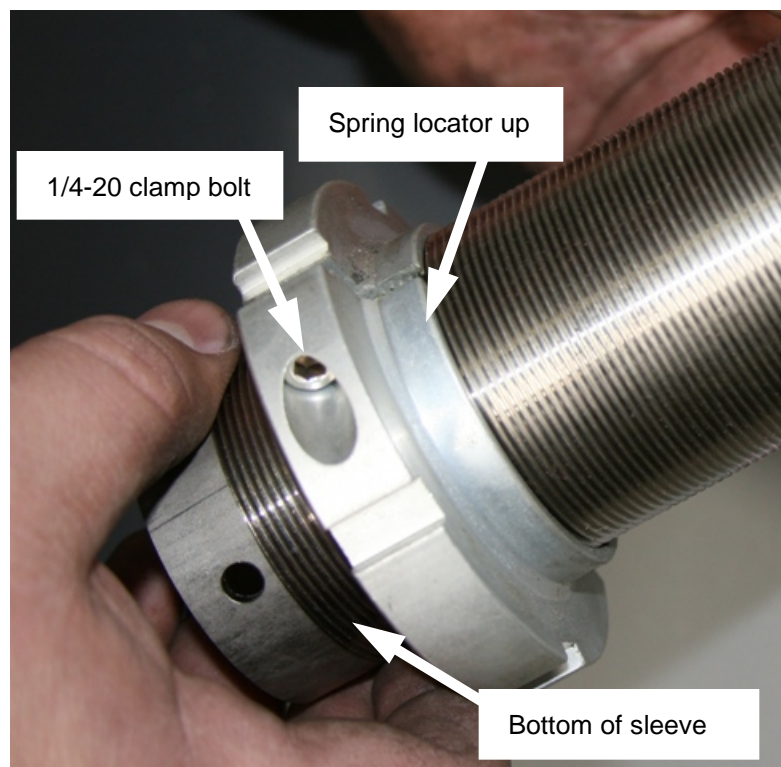

Figure 1
4. Thread the spring perch onto the threaded sleeve, near the bottom 1/3 of the threads. Make sure the collar is installed with the spring locator up. If the spring collar is too tight to easily rotate by hand, you may insert the flat blade of a screwdriver into the slot on the collar to ease installation. Do not force the screwdriver into the threads! Insert the 1/4-20 socket head clamp bolt loosely in the spring collar. (Figure 1)
9. Tighten the perch nut using the 1/4-20 clamp bolt. (Figure 1)
15. Thread the spring perch onto the threaded sleeve, near the bottom 1/3 of the threads. Make sure the collar is installed with the spring locator up. If the spring collar is too tight to easily rotate by hand, you may insert the flat blade of a screwdriver into the slot on the collar to ease installation. Do not force the screwdriver into the threads! Insert the 1/4-20 socket head clamp bolt loosely in the spring collar. (Figure 1)
20. Tighten the perch nut using the 1/4-20 clamp bolt. (Figure 1)